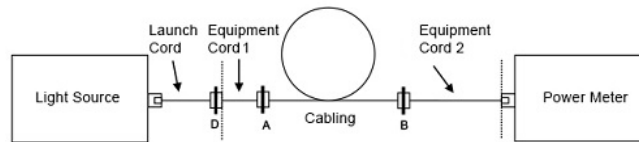

Figure 13. Measure the attenuation
- b. Attach the equipment cords to the cabling and measure attenuation (see Figure 13).